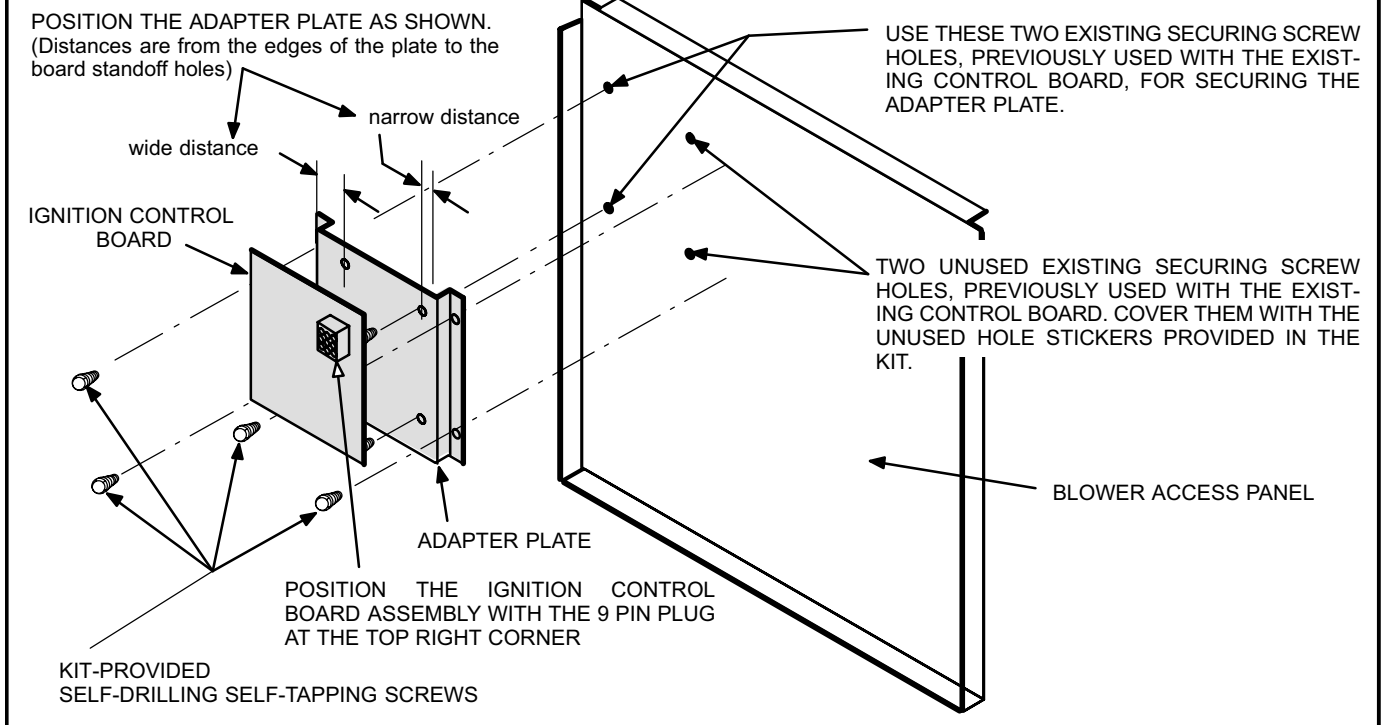

FIGURE 2
(Refer to figures 2 and 6)
- 2 - Secure the adapter plate to the blower access panel exactly as shown in figure 2.
- 3 - Snap-mount the control board to the adapter plate, positioned as shown in figure 2.